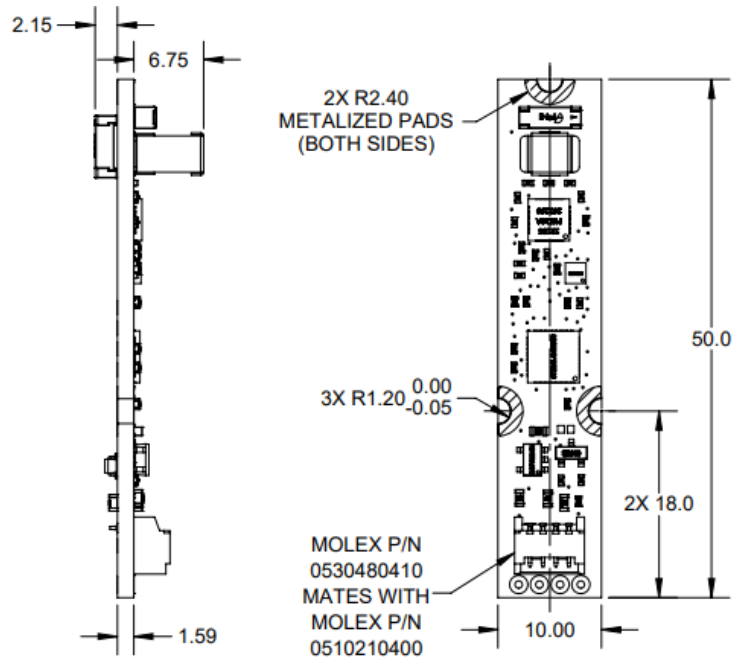

Figure 3-2: SeaTRAX-85° Mechanical Drawing
1. Pin #1 is the left most position of the connector as indicated on Figure 3-2